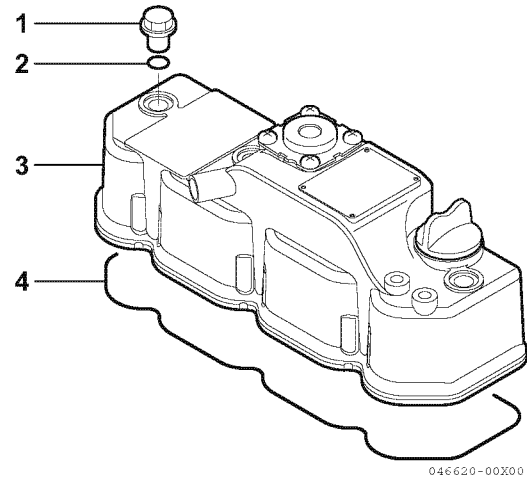

Figure 6-6
1. Remove the valve cover nuts (Figure 6-6, (1)).
2. Remove the O-ring (Figure 6-6, (2)) on each valve cover nut.
3. Remove the valve cover (Figure 6-6, (3)) and the valve cover gasket (Figure 6-6, (4)).